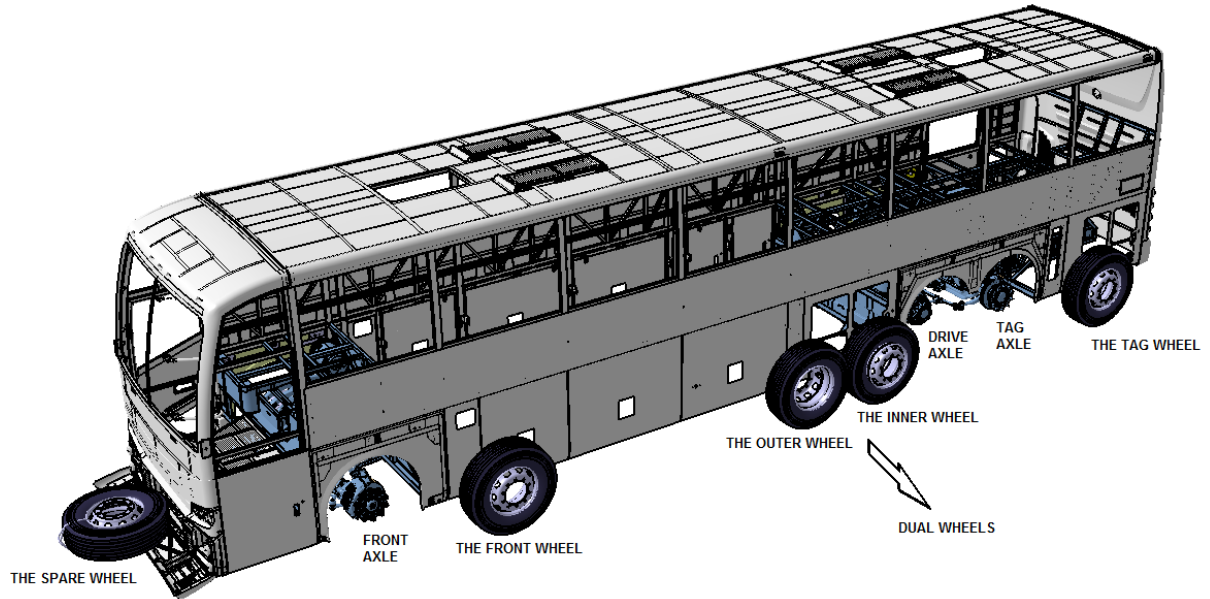

Figure-3
* Remove front, dual and tag wheels from related axles and also pull the spare wheel out shown in Figure-3.